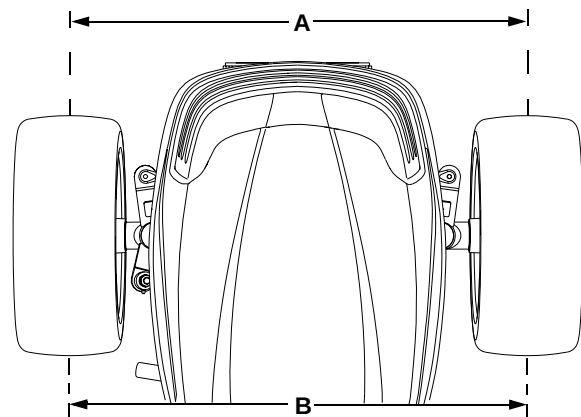

Figure 26
- Measure and record the distance 'A' between the two marks. See Figure 26.
- Roll the tractor forward or rearward until the marks are at the horizontal center line at the rear of the wheels. Measure and record the distance 'B' between the marks. See Figure 26.